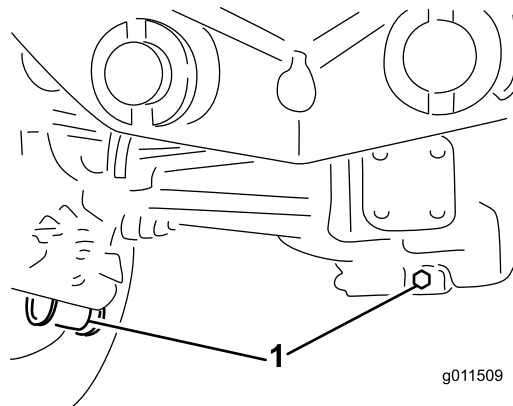

Figure 70
2. Clean the area around the 3 drain plugs; 1 on each end and 1 in the center (Figure 70).